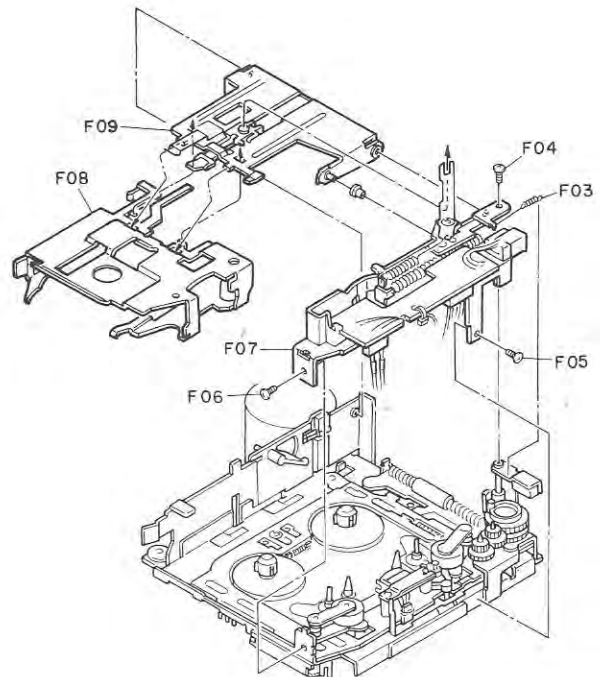

Fig. 2.4.2
- (3) Unhook F03 (Chip Arm Spring). (See Fig. 2.4.2.)
- (4) Loosen screws F04 (1 pce.), F05 (1 pce.) and F06 (1 pce.), and remove F07 (Sub Chassis Ass'y, Deck P.C.B. & other parts).
- (5) Remove F08 (Cassette Case) and F09 (Cassette Case Plate).